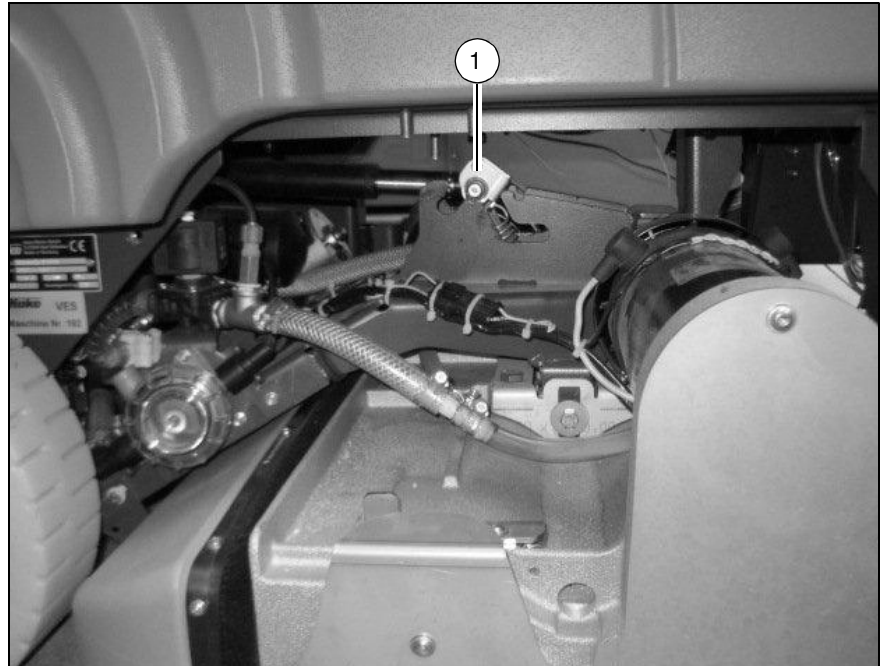

**Fig.2**
5. Disassemble the cotter bolt (Fig. 2/1) from the brush head.